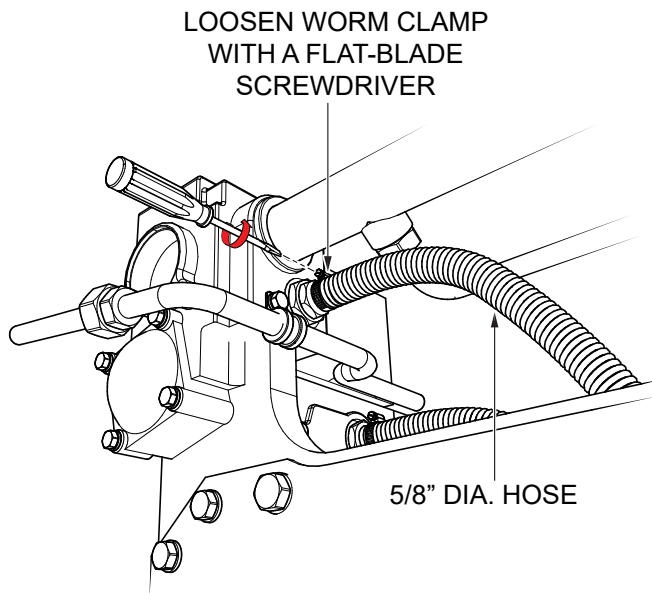

Figure 4. Worm Clamp Removal (Brass Fitting)
1. Using a flat-blade screwdriver, loosen the worm clamp securing the **return line** hose to the 5/8" **BRASS** barb fitting as shown in Figure 4.